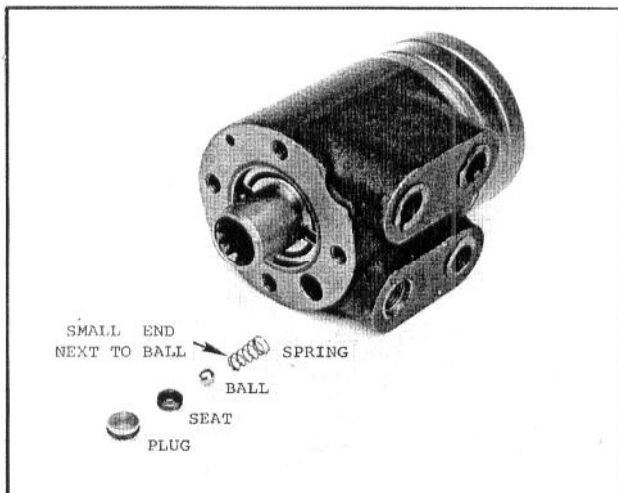

FIG. 18 — CHECK VALVE ASSEMBLY REMOVED
c. Unscrew valve seat. Tap pump against palm of hand and remove ball and spring, Fig. 18.
10. Drop check valve spring, Fig. 18, into hole (large end first) and drop ball on top of spring. Install seat and tighten to 150 inch-pounds torque. Install plug, using a new "O"-ring.